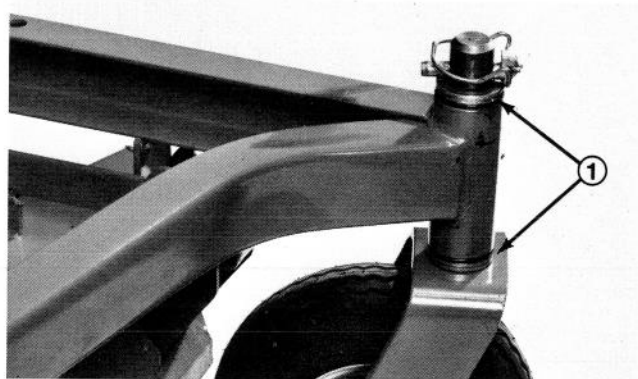

Figure 7
4. Insert pin punch into top or bottom of mounting tube and drive bushing out of tube (Fig. 7). Also drive other bushing out of tube. Clean inside of tubes to remove dirt.